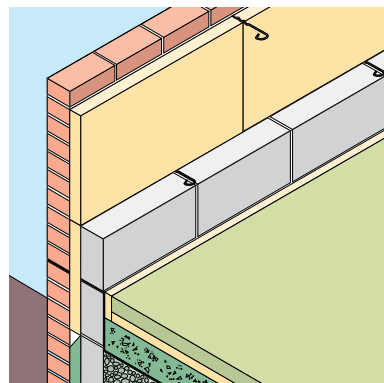

Figure 2
- 3 Build up a complete section of the leading leaf to one course above the next row of wall ties spaced at max. 900 mm horizontally (Figure 2). Ensure that all mortar joints are properly filled, particularly the perpend.